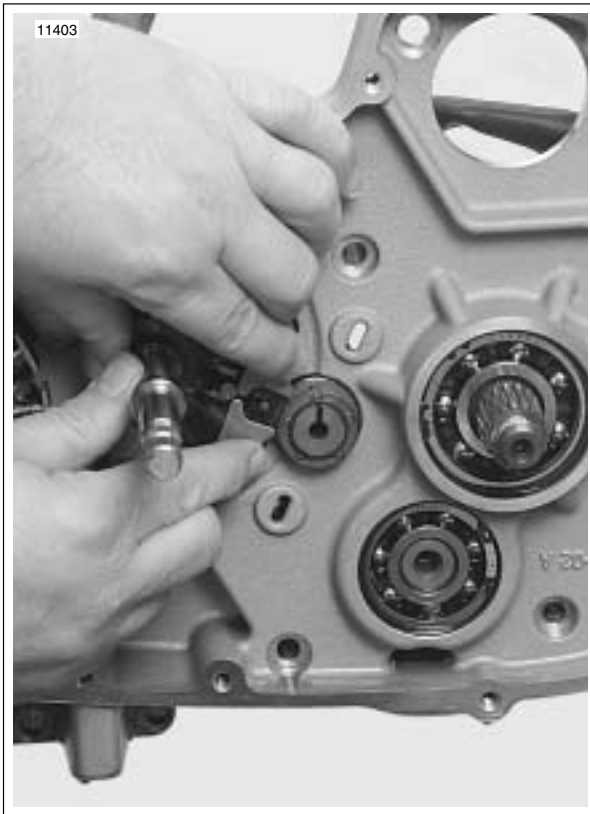

Figure 6-98. Installing Shifter Shaft Assembly
2. See Figure 6-98. Depress ratchet arms and insert shaft assembly into the bushing in the left case half and release. Ratchet arms should now be inside the end plate of the shifter drum contacting the shifter drum pins.